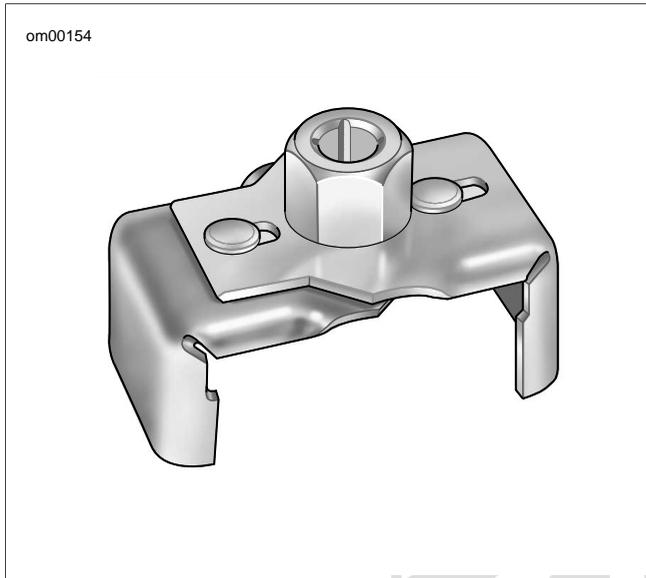

Figure 1-5. Oil Filter Wrench (Part No. HD-42311)
- See Figure 1-5. Remove the oil filter using the OIL FILTER WRENCH (Part No. HD-42311) or OIL FILTER WRENCH (Part No. HD-44067A). These tools allow easy removal of the oil filter without risk of damage to the crankshaft position sensor or cable.